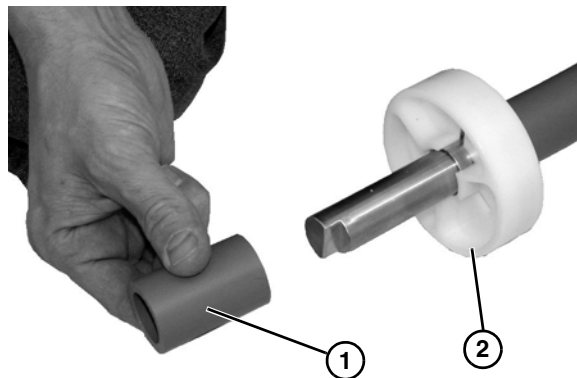

Figure 49
5. Slide off the round puck spacer (**Figure 49, item 1**).
6. Slide off puck (**Figure 49, item 2**) and replace if worn.